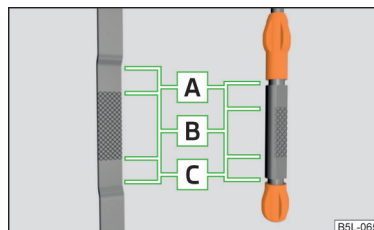

Fig. 160
- If the oil level is above level  >> Fig. 160 on page 203,  do not continue to drive! Switch off the engine and seek assistance from a specialist garage.
The dipstick indicates the level of oil in the engine » Fig. 160.
The oil level must not exceed the range **A** » Fig. 160 - there is a risk of damaging the exhaust system. ■